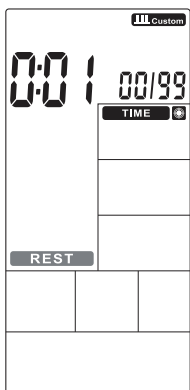

FIGURE 34
- The Time display remains lit and the word REST will flash, press UP / DOWN (KEYS 10 or 11) to set the rest time from 0: 01 ~ 9: 59 (Figure 34). Press ENTER (KEY 19) to confirm and finish the configuration.